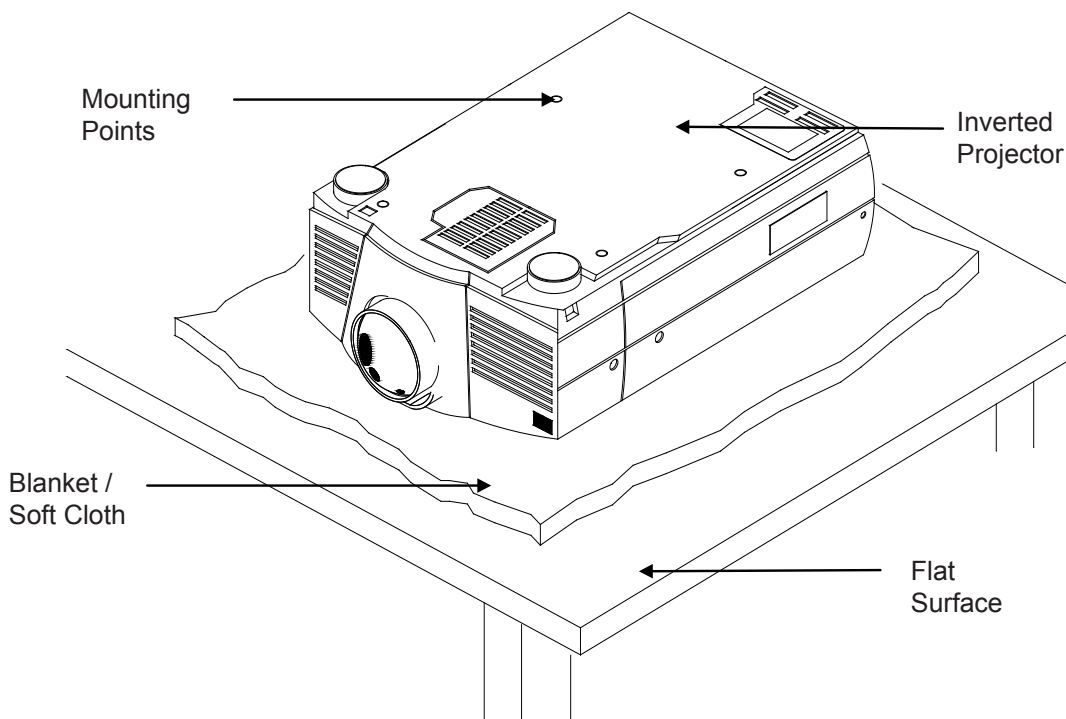

Figure 1. Projector Preparation
Step 2. Identify the number of mounting points and screw thread size. Most projectors have either three or four mounting points and are M4, M5, or M6 in thread size (Figure 1).